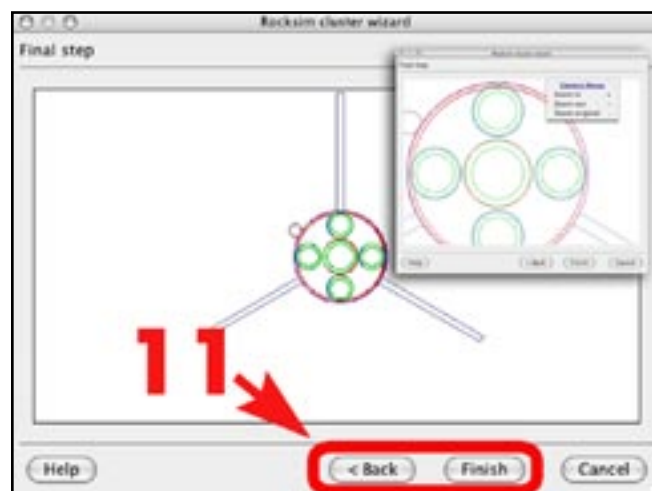

Figure 11
11. Now you'll see a picture of the cluster, like shown in Figure 11. NOTE: at this point, it will not be perfect. You will now have to click the "< Back" button to go and tweak the radius dimension and the rotation angle.
If you have RockSim v8, you can right-click with your mouse on the screen to bring up the “Context Menu,” which will then allow you to zoom in on the image (see inset in Figure 11).